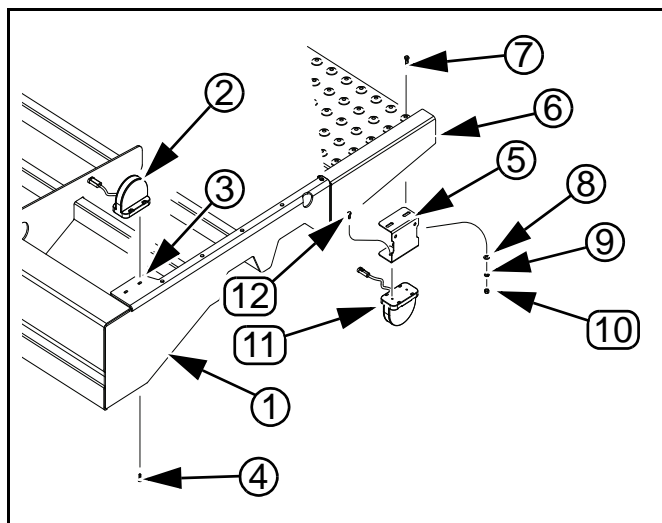

Figure 6
1. Install the red lamp (2) to the frame (3) as shown in Figure 6. Use two 1/4-20x3/4 self-tapping screws (4).
2. Install the two bracket (5) on the bottom of the walkboard frame (6). Use two 3/8-16x1 1/4 HHCS (7), flat washers (8), spring lock washers (9), and 3/16 nuts (10).
3. Fasten the amber lamp (11) to the bracket. Use two 1/4-20x3/4 self-tapping screws (12).